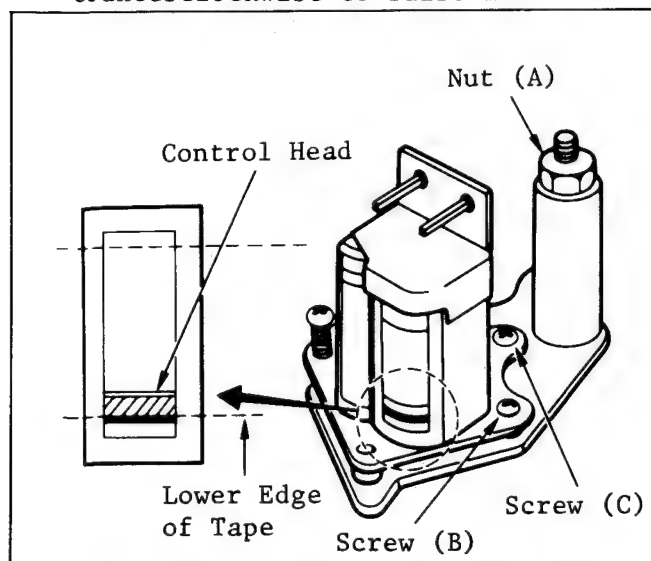

Fig. M40 Confirmation of A/C Head Height
3. Adjust the height by turning screw (B) indicated in Fig. M40 for the maximum output level. Slowly and gently turn screw (B) for this adjustment.